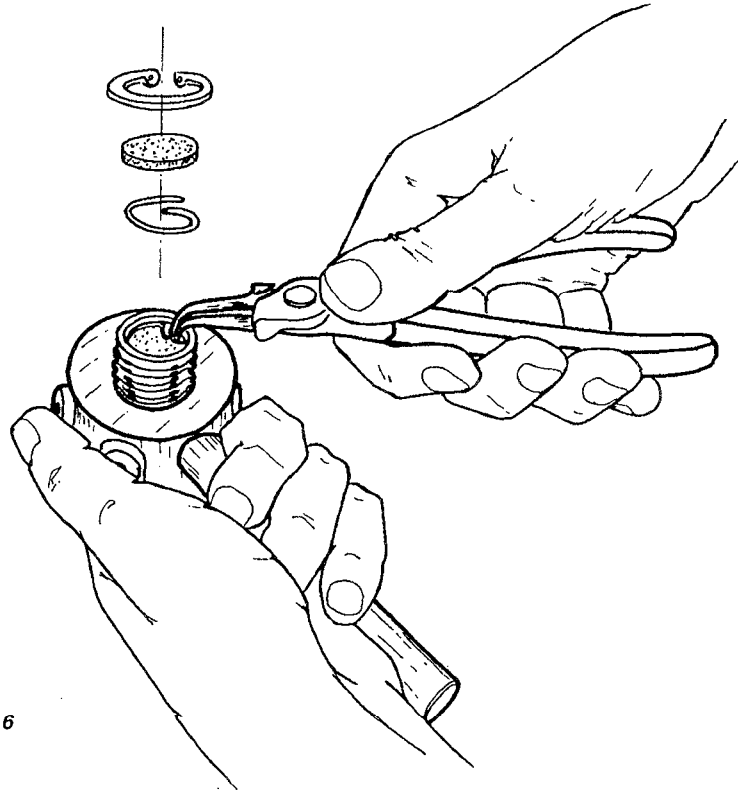

FIG. 6
- A. Using a 6 mm. wrench (B-8), unscrew the DIN connector coupling (51).
- B. Remove O-rings (23) and (50) from DIN connector (51).
- C. Extract the DIN connector wheel (49).
- D. Unscrew DIN connector body (48) and O-ring (23)
9. With snap ring pliers (B-14), extract retaining ring (2), filter (22) and filter spring (61) from 1st stage body (1) (Fig.6).